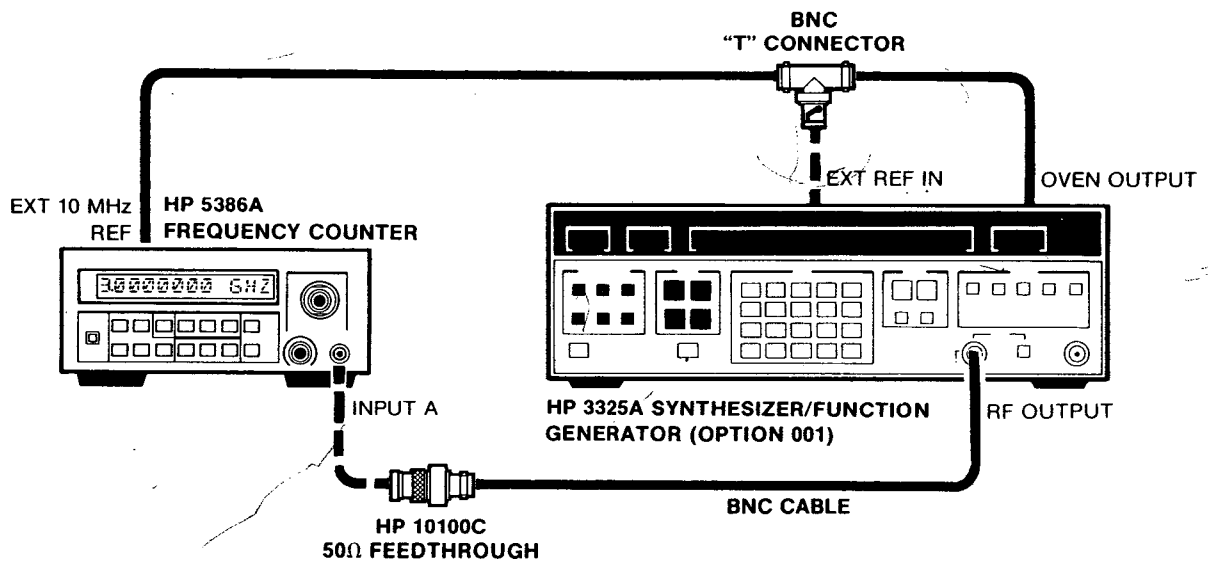

Figure 4-4. Period A Test Setup
- a. Connect the HP 3325A synthesizer/function generator to the HP 5386A Channel A input as shown in Figure 4-4.